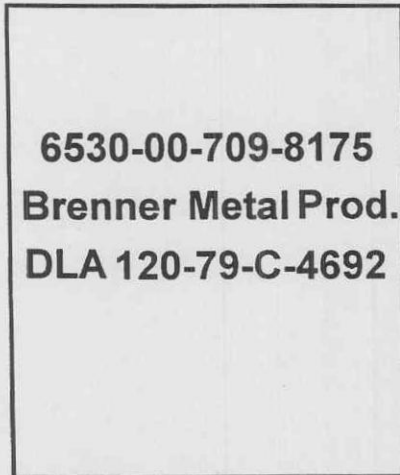

Figure 1-1. Case label.
- a. Management and manufacturer information is located on top of the case. The case label is 1-inch black letters printed on the outside of the top of the case (fig 1-1).